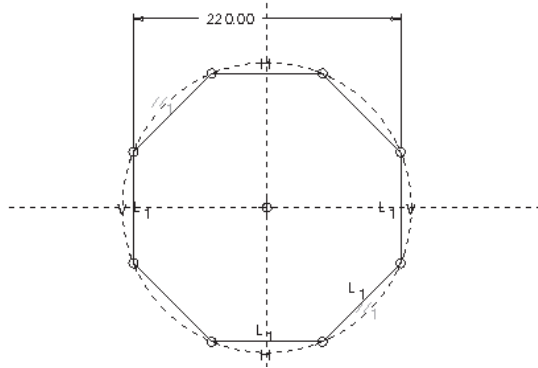

Figure 7-98 Sketch of the octagonal feature
- b. Create the base feature, refer to Figures 7-98 and 7-99.
3. Draw the sketch of the octagon and apply the constraints and dimensions, as shown in Figure 7-98. The construction circle is used to draw the octagon because it becomes easy and less time-consuming.